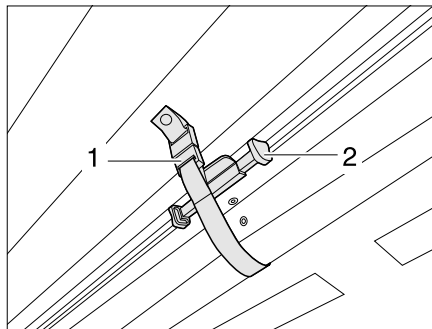

Fig. 14 Securing the Roman shade for the windscreen
- Use the handle (Fig. 14,2) to push the Roman shade for the windscreen upwards until it latches it in place. Secure with the securing loop (Fig. 14,1). The Roman shade is secured.